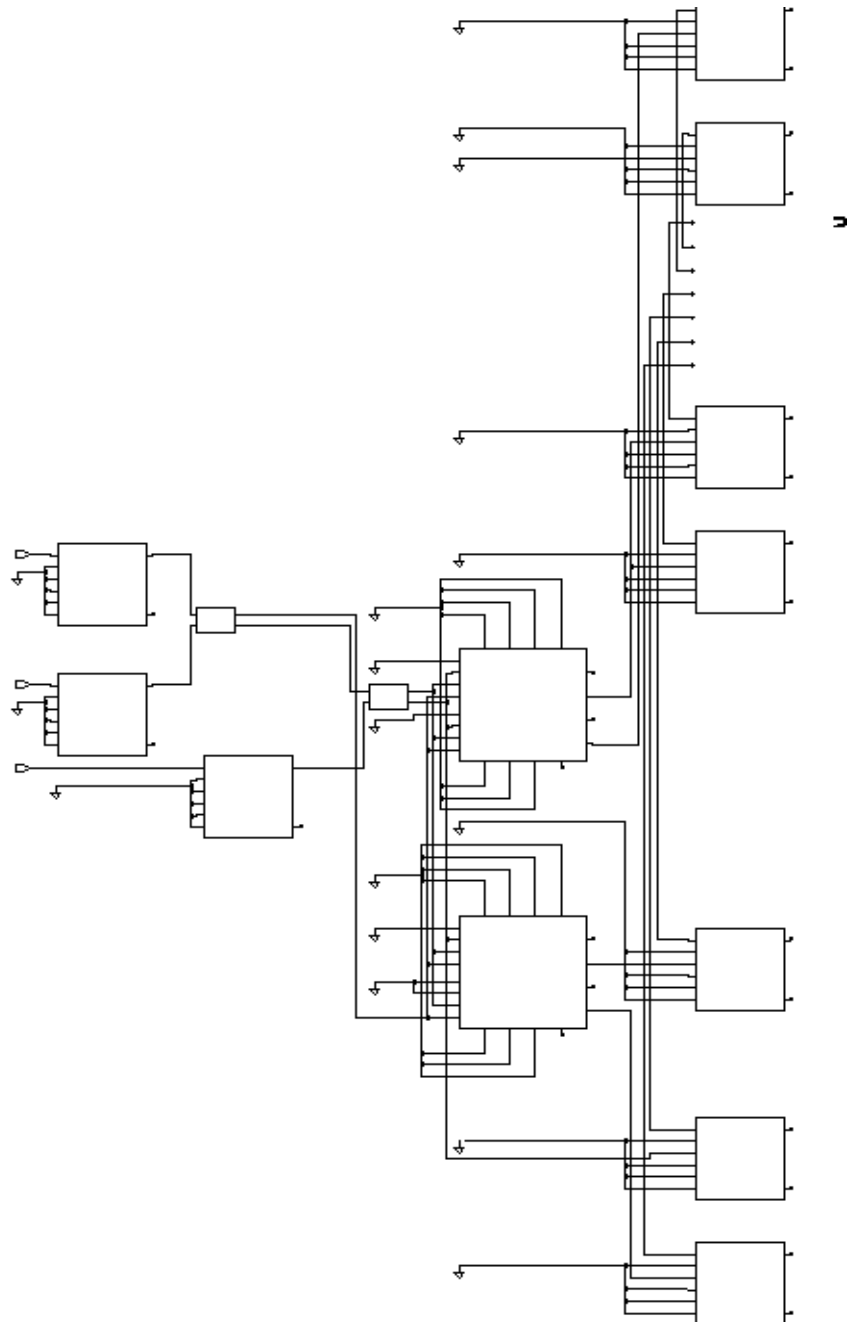
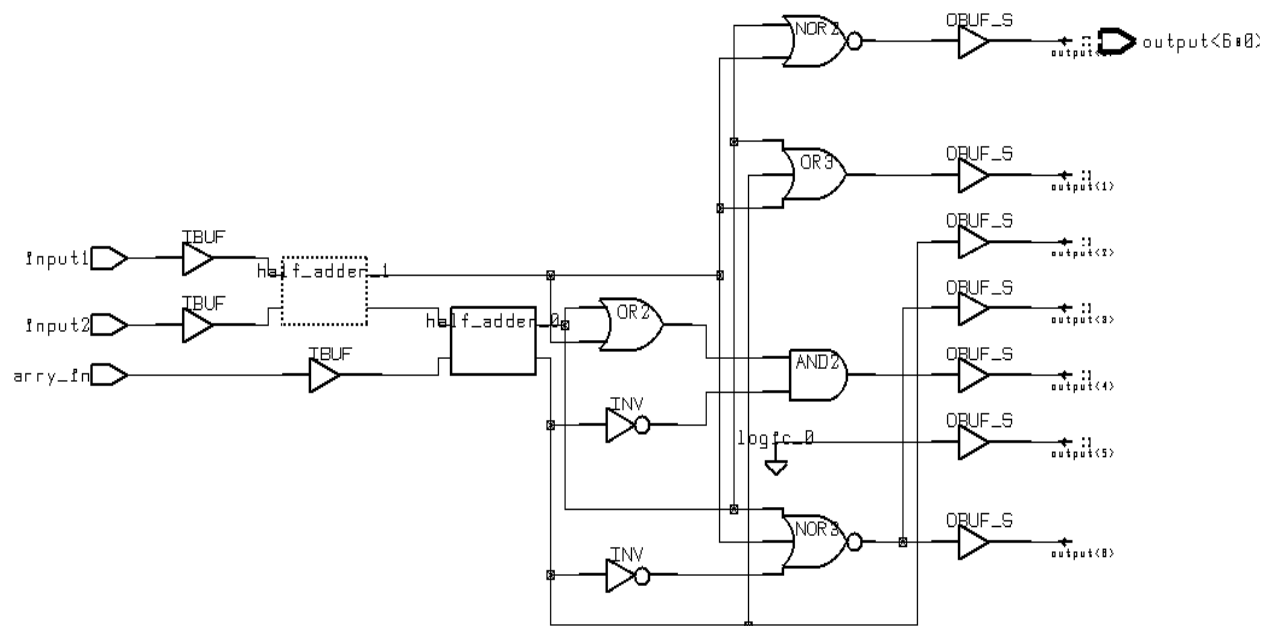

Figure 21: Full_adder schematic in terms of Xilinx blocks.
Figure 22: Full adder schematic after replacing FPGA cells with gates.
(5) Descend down into the hierarchy of the `half_adder_0` component by selecting it and using the down arrow button. Notice how this component is implemented in a single Xilinx CLB. The `half_adder_1` component is similarly implemented.
(6) Return to the top-level (use the up arrow button) and descend down into the `full_adder` hierarchy. Notice how it consists of IOBs, CLBs, and two `half_adder` components. See Figure 21.
(7) Use the Design Analyzer to examine the full_adder.db synthesized design. This is the result of synthesis after FPGA cells have been replaced with gates from the technology library. Select File -> Read -> Synthesized/full_adder.db and descend down the hierarchy of this design. Traverse down the the gate level schematic (see Figure 22). Notice how each of the IOB in Figure 21 have been replaced with either an IBUF or an OBUF_S. Notice also that the two half adders
are represented by yellow squares. You can descend down into the hierarchy of either `half_adder` by selecting it (it's outline will change from a solid line to a dashed line) and selecting the down arrow button of the Design Analyzer. Notice how the gate-level schematic of each half adder does not have inverted outputs. Finally, we can see that the two CLBs in the middle of Figure 21 have been replaced with a combinational logic network.